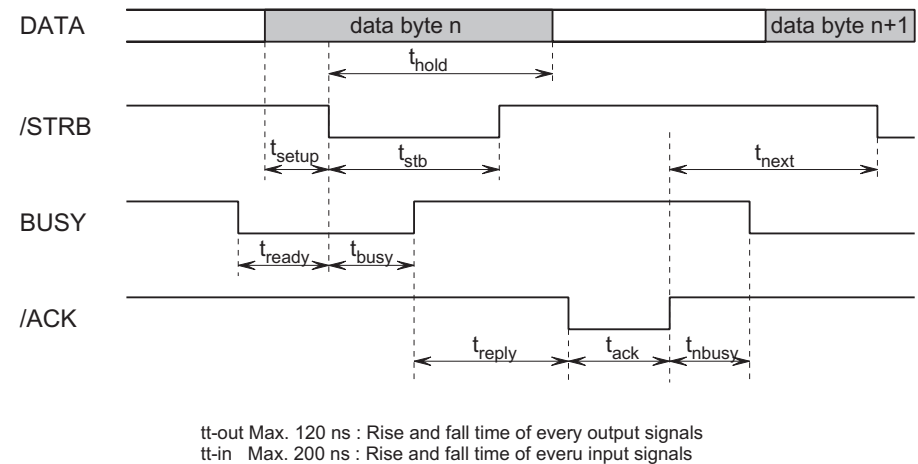

Figure 1-9. Timing Chart
3. Refer to figure 1-9 for transmission of timing of each signals.